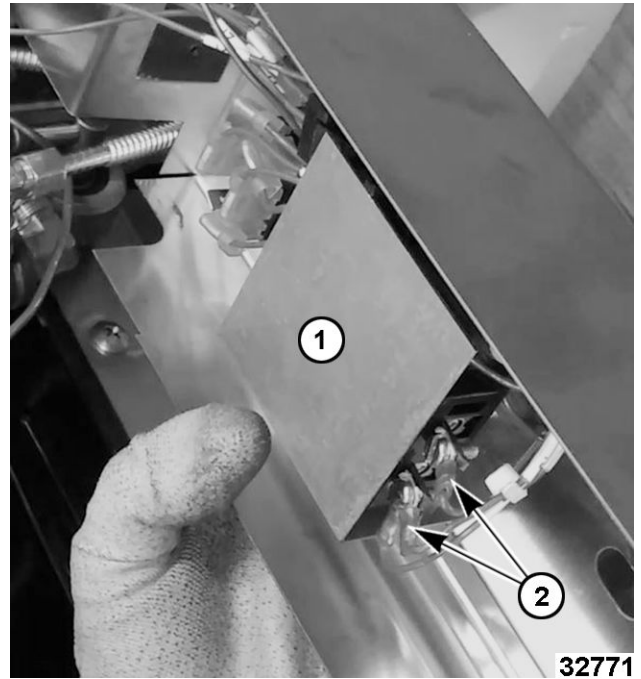

Fig. 37
4. Remove electrical cover (1, Fig. 37). Note and disconnect temperature control electrical connectors (2, Fig. 37).
NOTE: Shield (1, Fig. 37) is installed on previous production units, not on current production.